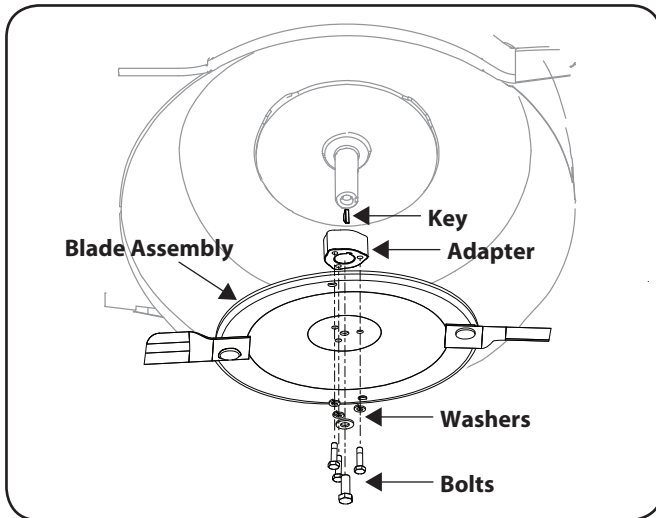

Figure 7-1
2. Remove the bolt and the flat washer which hold the blade assembly and the blade adapter to the engine crankshaft. See Figure 7-1.
5. Lubricate the engine crankshaft and the inner surface of the blade adapter with light oil. Slide the blade adapter onto the engine crankshaft. Place the blade assembly on the adapter such that the side of the blade without a wing faces the ground when the mower is in the operating position. Make sure that the blade assembly is aligned and seated on the blade adapter flanges. See Figure 7-1 inset.